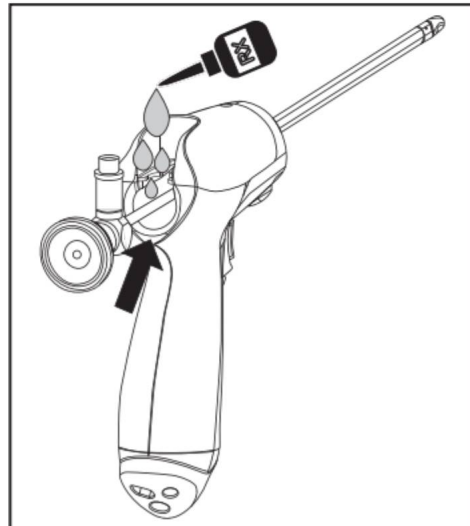

Figure 10. Insert Rigid Cystoscope Lens.
2. Coat lens shaft near lens tip with lidocaine gel anesthetic or water soluble lubrication to ensure smooth insertion into Delivery Device. Do not coat the lens itself, as this may impede visualization (figure 10).